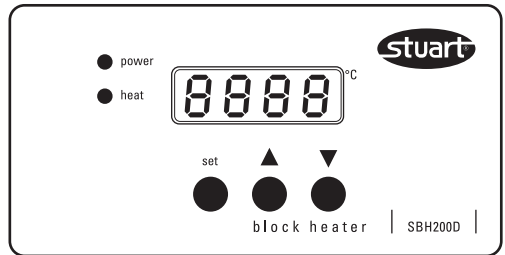

Figure 3 - digital controls
2. The “power” light will illuminate as will the digital display - see figure 3.
3. The digital display will show the actual temperature of the aluminium blocks. If the instrument’s current set temperature is above this value it will begin to heat and the “heat” light on the control panel will illuminate. The current set temperature may be viewed at any time by pressing and holding the “set” button – see figure 3.
- This setting may be increased by pressing the button labeled ▲ or decreased by pressing the button labeled ▼ while continuing to press and hold the “set” button – see figure 3.